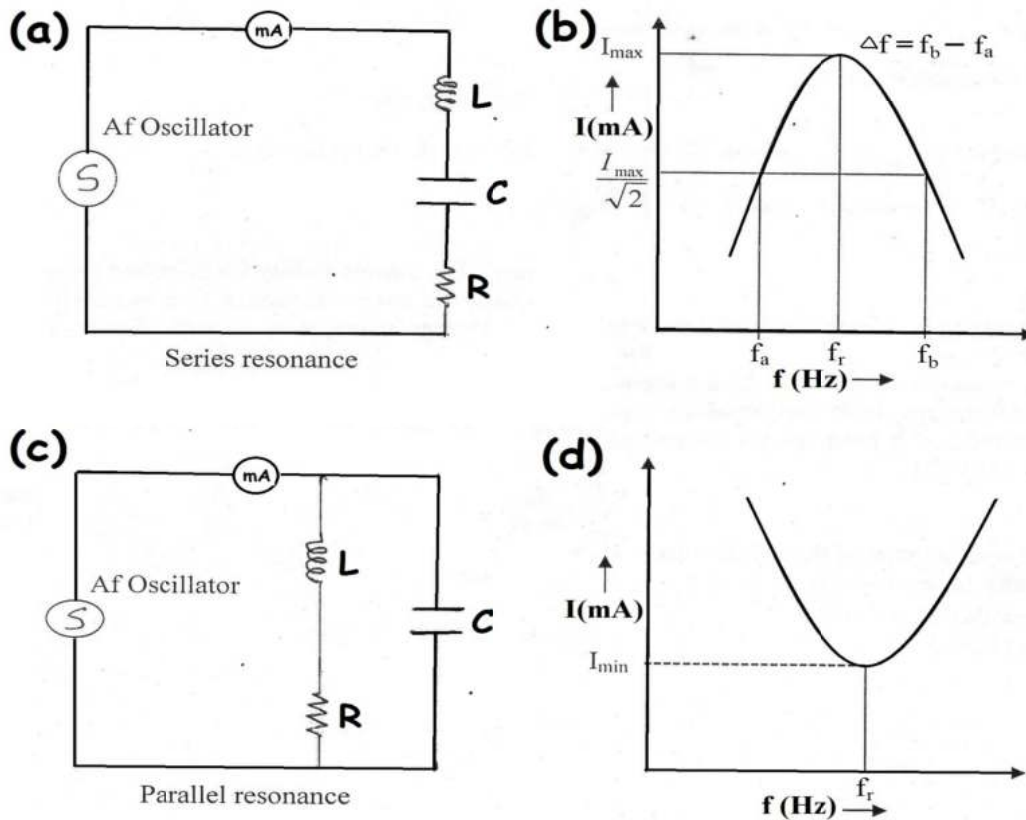

Fig. 7.1: (a) Series LCR circuit, (b) plot of I v/s f for series resonance, (c) parallel LCR circuit, (d) plot of I v/s f for parallel resonance
1. The required circuit is done as in the Fig. 7.1(a) (series resonance).
5. A graph of I v/s f is plotted as shown in the Fig. 7.1(b). The resonance frequency as well as inductance value of the coil is determined using Eqn. (1) .
6. The quality factor Q of the circuit also evaluated using Eqn. (3).
7. For parallel resonance, the circuit is done as in Fig. 7.1(c). The frequency corresponding to the minimum current is determined.
8. The readings are plotted as in the Fig. 7.1(d). And hence, the unknown inductance value is determined using Eqn. (2).